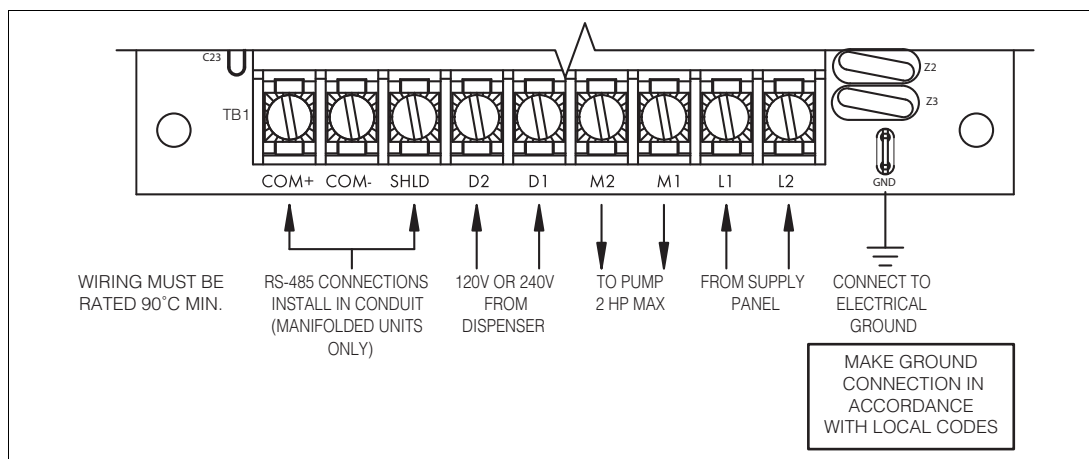

Figure 1. -051, 052
3. While viewing the wiring diagram (Figure 1) or inside the enclosure lid, connect the input power L1 and L2 wires to the terminal block labeled TB1. This control box is designed to operate from 200 to 250Vac. Since the submersible turbine pump is powered by the M1 and M2 terminals (and M3 terminals -058, -059 models) on the circuit board, refer to the installation and instruction manual that was supplied with the pump for correct supply voltage. Typical pump ratings are 208 to 240Vac.